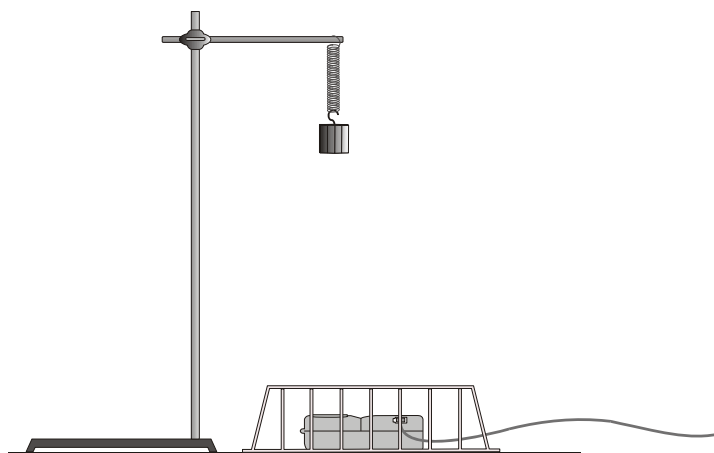

Figure 1
2. Attach the spring to a horizontal rod connected to the ring stand and hang the mass from the spring as shown in Figure 1. Securely fasten the 200 g mass to the spring and the spring to the rod using zip ties so the mass cannot fall.